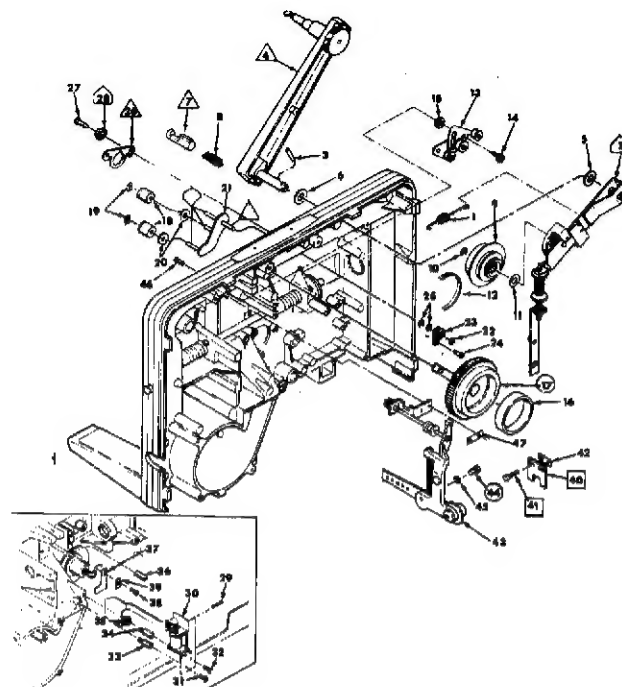

Figure 13
The clutching action is provided by the interaction of the take-up clutch arm and pulley (9), the take-up clutch liner (16), and the take-up clutch gear (17). (Figure 13). The liner fits snugly inside the gear and the pulley fits inside the liner.